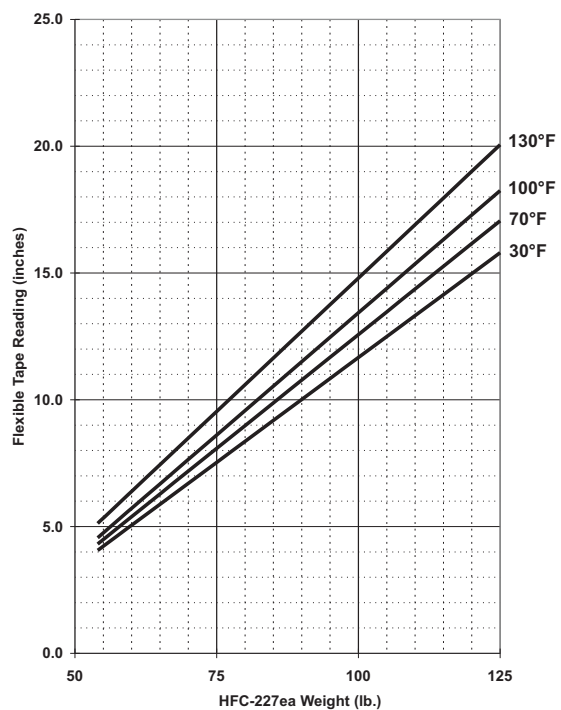
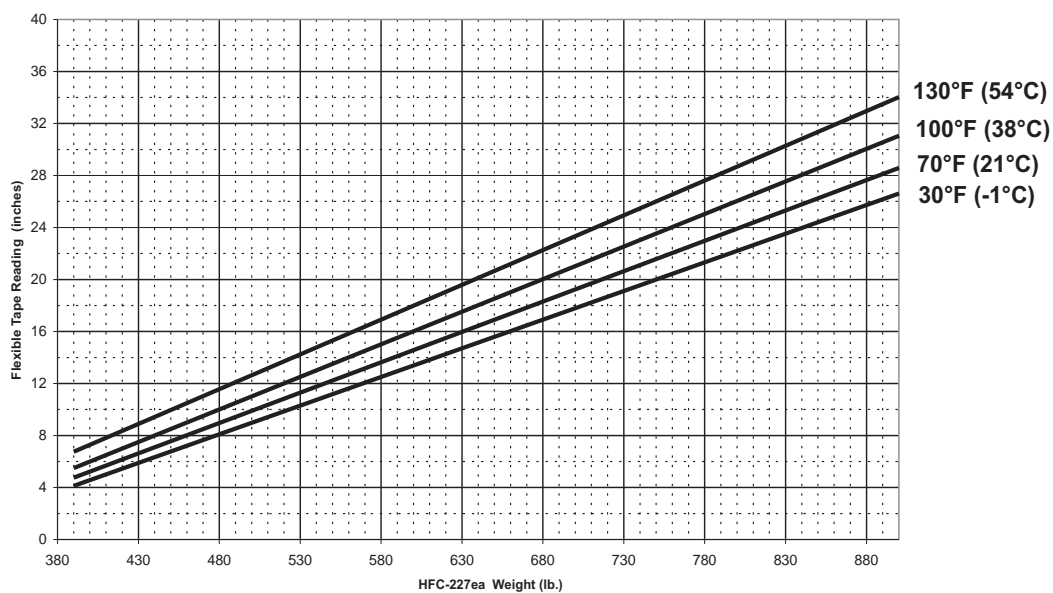

Figure 5-2. Calibration Chart 125lb Cylinder
Figure 5-7. Calibration Chart for 900lb Cylinder
7. Refer to the appropriate calibration charts (see Figure 5-2 through Figure 5-7) and locate the level reading on the vertical axis (labeled Flexible Tape Reading). Trace horizontally to the right to the appropriate temperature line. Read the weight of HFC-227ea from the scale at the bottom of the chart. Record the weight and date on the record tag attached to the cylinder.